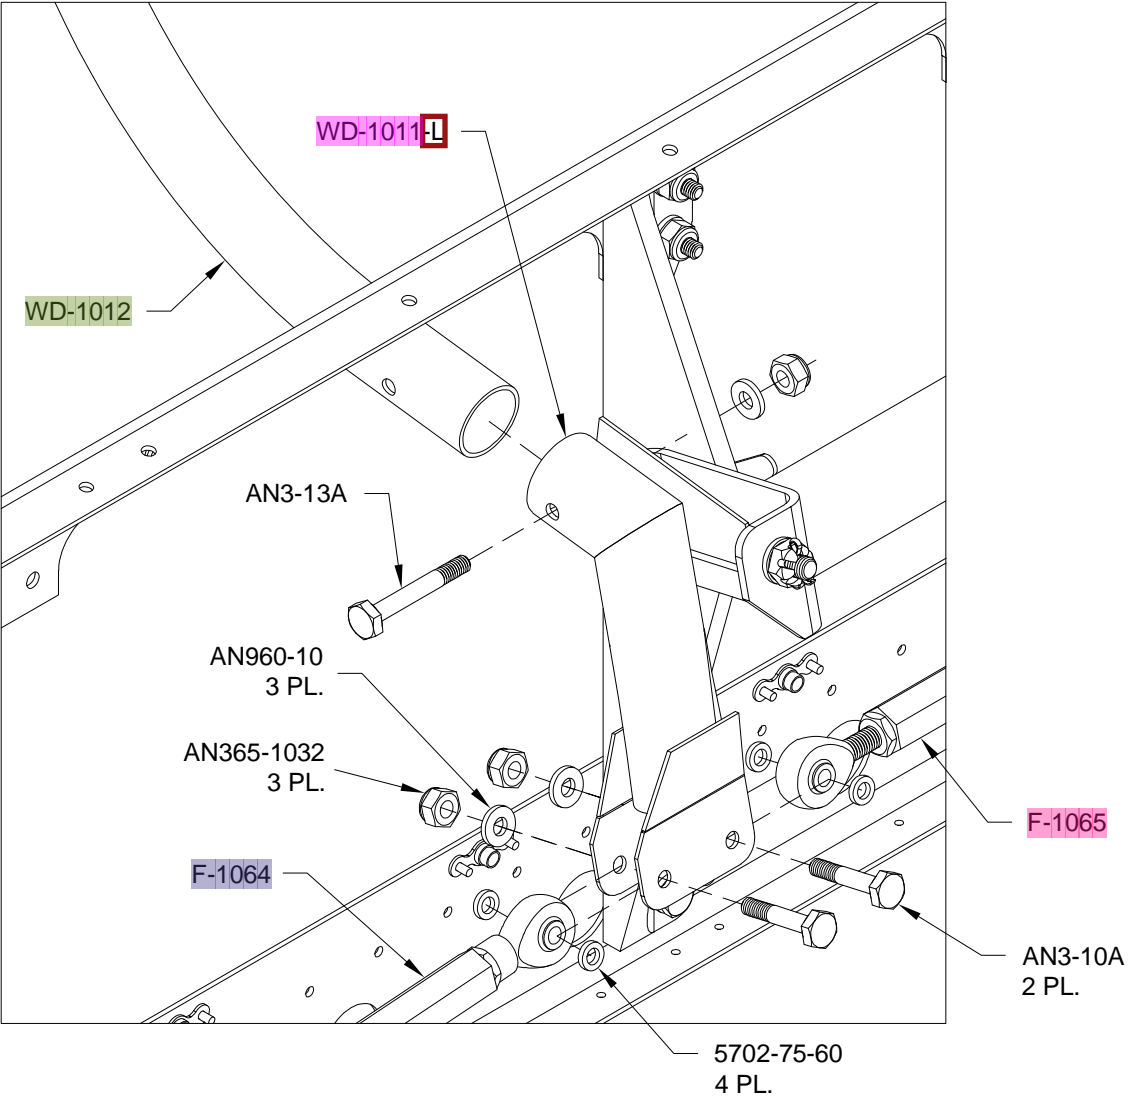

FIGURE 3: CONTROL STICK AND PUSHROD INSTALLATION
Step 3: Install the F-1065 Pushrod Assembly into the WD-1011-L and the WD-1011-R (not shown) Control Stick Bases using just the bolts and nuts shown in Figure 3 for now. Leave the nuts finger tight.
Install the WD-1012 Control Sticks into the control stick bases using the hardware shown in Figure 3. Move the control sticks through their full range of motion and check for interference. **NOTE: When F-1043D-L/R Cover Panels are later installed check for interference with control sticks and trim the cover panels if/as necessary for clearance.**
Tighten the jam nuts. Bolt the pushrod assembly into the WD-1011 L and R Control Stick Bases using the hardware shown on Page 39-8, Figure 3.
Step 2: Bolt the F-1064 Aileron Pushrod Assemblies into the WD-1011 L and R Control Stick Bases using the hardware shown on Page 39-8, Figure 3.